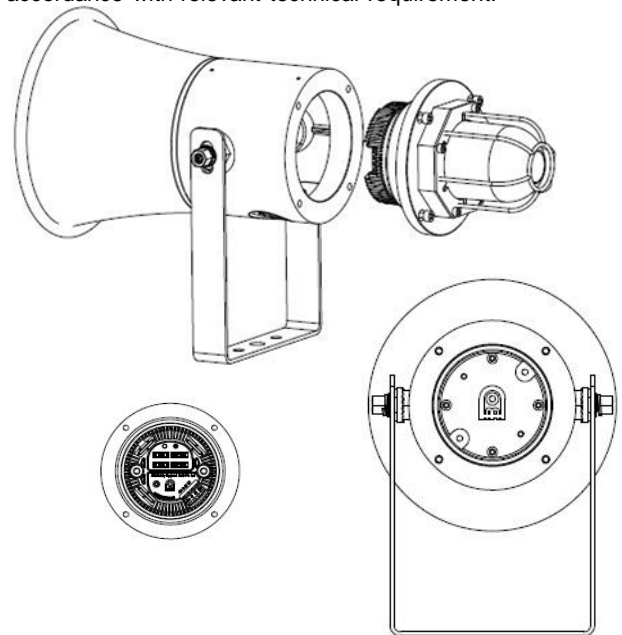
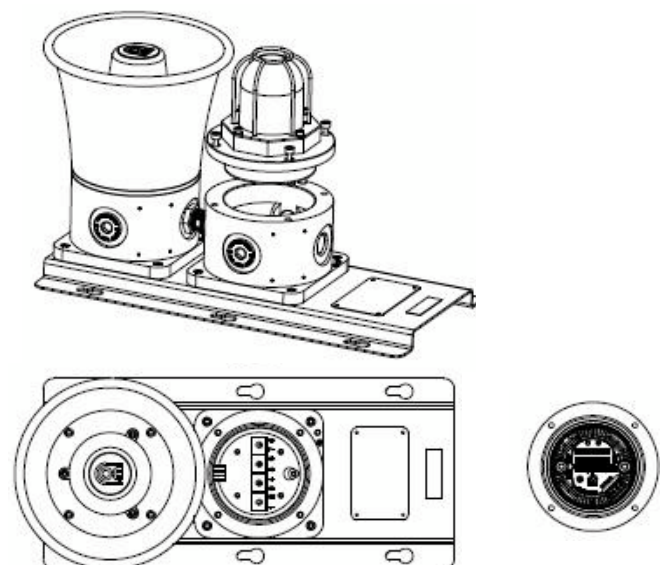

Fig 3A Single Unit
Fig 3B Combined Unit
The cable connection is connected with the terminal blocks on the electronic PCB assembly located in the flameproof enclosure of the **Beacon Component** (For Single Unit, See Fig 3A); or assembly located in the bottom unit which can be **Beacon Component** ( For Combined Unit, See Fig 3B) or Push Button or Junction Box. Cable connection should be carried out in accordance with relevant technical requirement.
**CAUTION:** Before removing the cover, ensure the power to the product is isolated. Unscrew the 4 (SB 125) or 6 (SB 150) M5 retained hex socket head screws of the **Beacon Component** (See Fig 3A/B) to open the End cover. Twist the cover gently clockwise and anti-clockwise, whilst pulling away from the base, until it comes off.